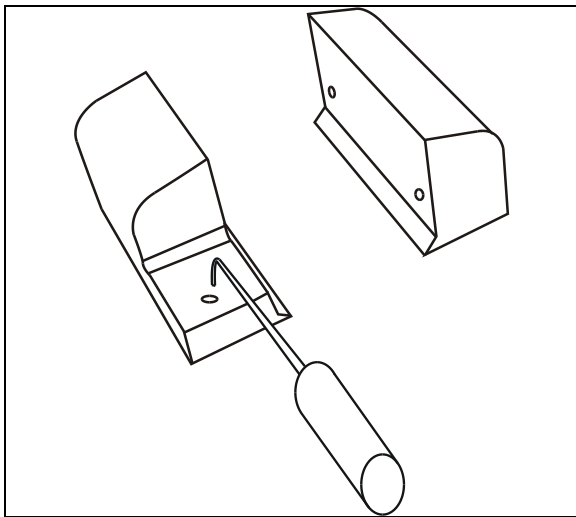

FIGURE 26: REMOVE THE UPPER ACETAL PLASTIC BLOCKS WITH A PICKING TOOL
3. Remove the 2 upper acetal plastic blocks. They have holes so they can be removed with a picking tool (Figure 26) from outside the vehicle. If the acetal plastic blocks are too hard to reach, slightly extend the slide-out, the movement of the slide-out should bring them out.
1. For both sides of the slide-out, remove the 2 upper acetal plastic blocks shown on FIGURE 26 (refer to paragraph 13).